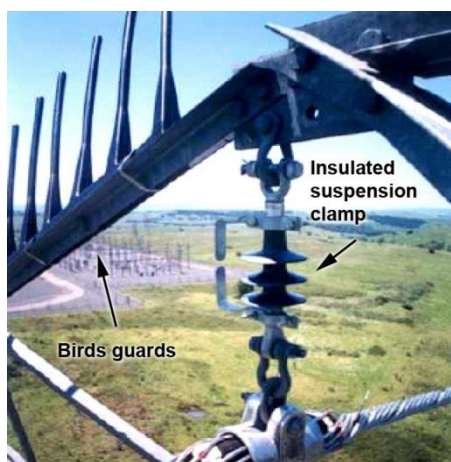

Figure 2: Bird guards & Insulated Suspension Clamp
- j) Check that the fibre optic line is equipped with bird guards on the tower (see figure 2).